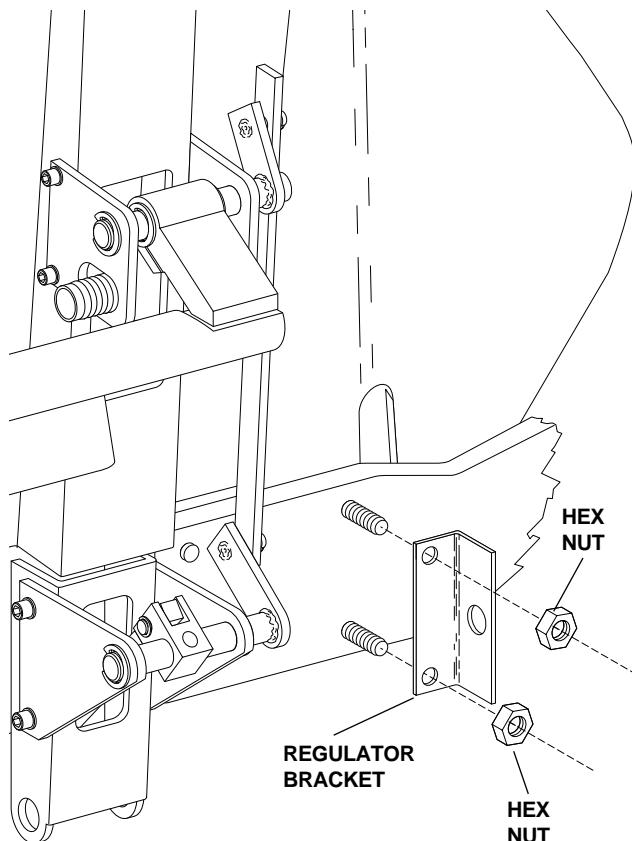

FIGURE 5
- Install the regulator bracket from the kit onto the screws installed in Step 6 (see Figure 5). Secure the bracket with the two (2) hex nuts from the kit.